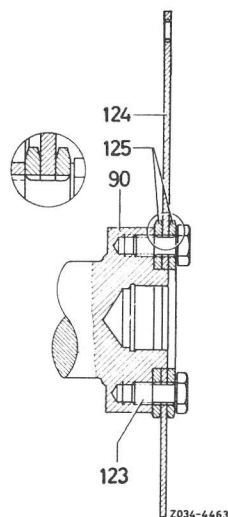

Fig. 4
- 2 Watch out for the two spacing washers (125) when removing driven plate (Fig. 4).
- 3 Position flywheel on crankpin in such a manner that the offset bore in the crankshaft flange or in flywheel and in driven plate are in alignment. Place spacing washers (125) in front of and behind driven plate (Fig. 4).